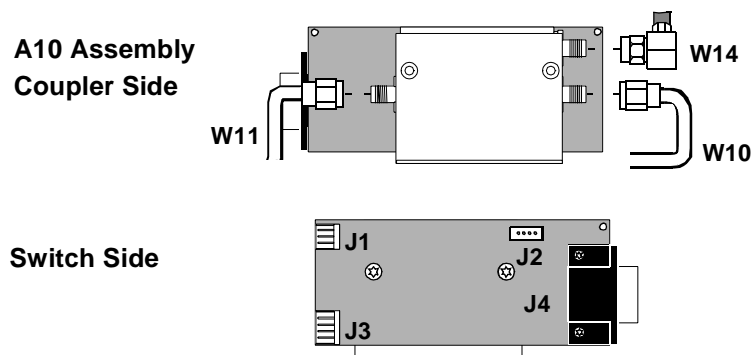

Figure 30 A10 Assembly (Directional Coupler)
- If you are replacing the semi-rigid cables W10 and W11, disconnect the W10 and W11 connectors on the A10 assembly, see figure 30.
- If you are replacing the A10 assembly, disconnect the W10, W11, W14 connectors and the connectors at J1, J2, J3, and J4 on the A10 assembly, see figure 30.